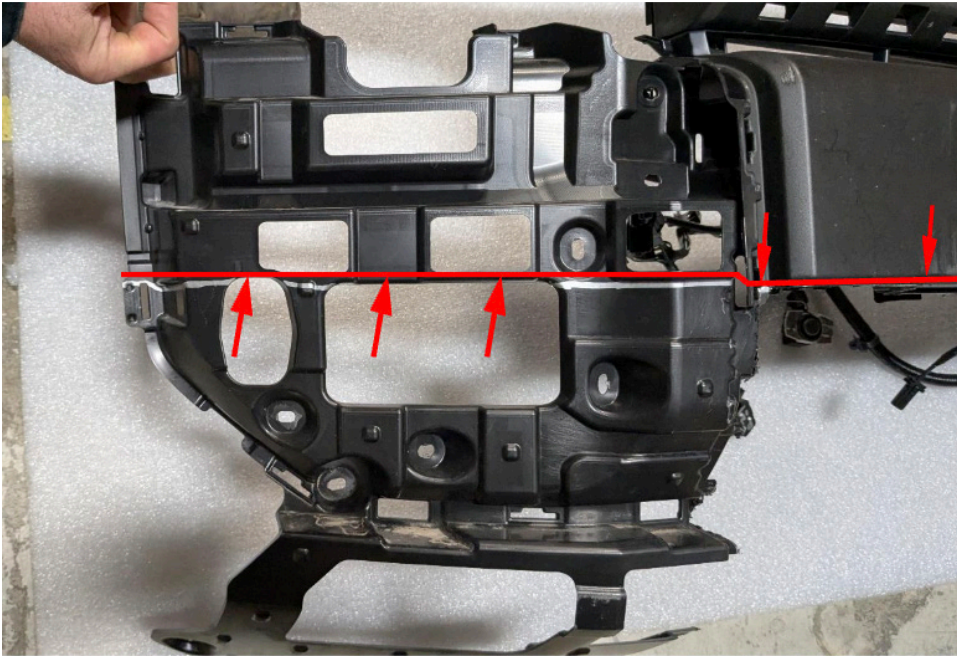

Figure 32.
24. Using a silver marker, trace a straight line parallel to the bottom edge of the previously cut center that traverses along the top edge of the large holes cut out of the bumper wing structure. Cut the bumper structure along the previously marked line. Figure 32.